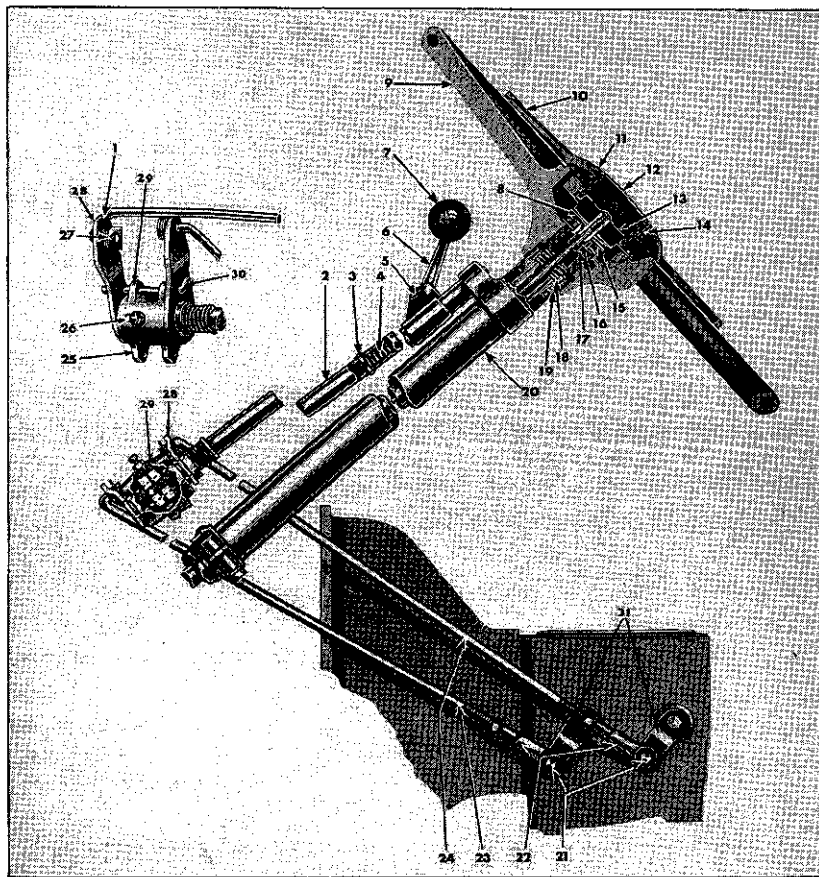

FIG. 211—TRANSMISSION REMOTE CONTROL
**c.** Shift to neutral position. Disconnect shift rods from shift levers at transmission by removing clevis pins (Fig. 211, No. 21). Insert a short piece of snug fitting ¼" [6,35 mm.] rod (No.
a. Remove the shift rods (Fig. 211, No. 23 & 24) from the transmission and from the clutch levers (28).
b. Remove gearshift lever fulcrum pin (5) and the shift lever (6).
e. Remove the two screws holding remote control housing (29) to the steering column and lift the
a. Disconnect the remote control shift rods (Fig. 211, No. 23 & 24) from the control levers (31).